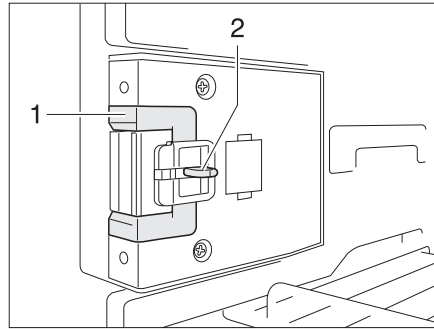
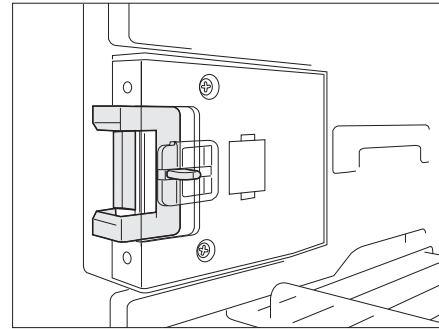

Fig. 326 Locking device in normal position
Fig. 327 Locking device in ventilation position
- Press down the unlocking device (Fig. 326,2).
- Push locking device (Fig. 326,1) forwards (Fig. 327).